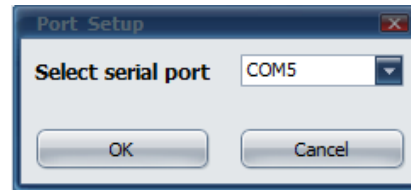
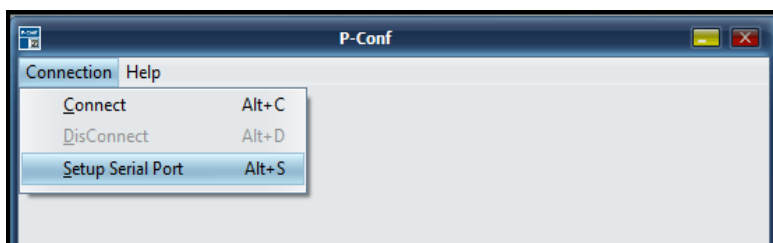

Figure 2 - Port selection dialog
Figure 1 - P-Conf starting window
2) select "Connection" - "Setup Serial Port" (Figure 1), then select the port the programmer is connected to, click OK to confirm (Figure 2);
1) turn on the PC and launch P-Conf; a window with two menu items shows up (Figure 1);